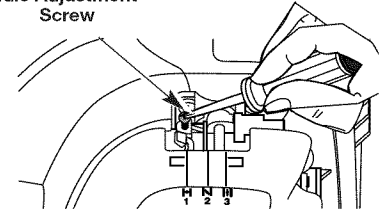

Fig. 29
The idle speed of the engine is adjustable. An idle adjustment screw is between the air filter cover and the engine starter housing (Fig. 29).
- Release the throttle trigger and let the engine idle. If the engine stops, insert a small phillips in between the Air Filter Cover and the Engine Cover (Fig. 29). Turn the idle speed screw in, clockwise, 1/8 of a turn at a time (as needed) until the engine idles smoothly.